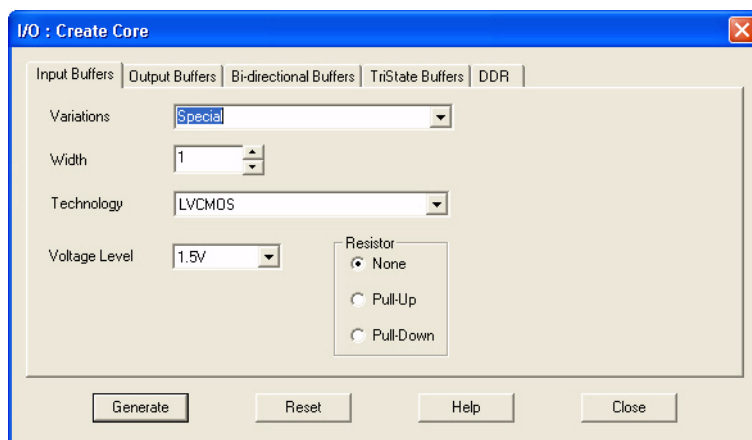

Figure 13-4 • I/O Create Core Window
4. Double-click any of the varieties. The I/O Create Core window opens (Figure 13-4).
As seen in Figure 13-4, there are five tabs to configure the I/O macro: Input Buffers, Output Buffers, Bidirectional Buffers, Tristate Buffers, and DDR.
The **Special** variation has Width, Technology, Voltage Level, and Resistor Pull-Up/Down options (see Figure 13-4). All the I/O standards and supply voltages (V_{CC}) supported for the device family are available for selection.